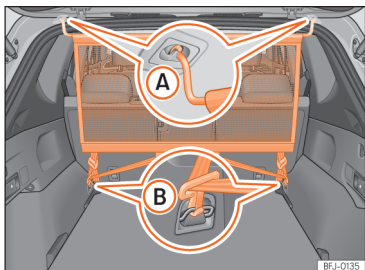

Fig. 203 Net partition fitted.
- Hook the net partition to the left-hand side roof housing >>> Fig. 203 (A).
- Hook in the net partition on the rear right-hand side roof housing by pressing on the bar >>> Fig. 203 (A).
- Secure two hooks of the partition net to the fastening rings of the boot >>> Fig. 203 (B) and tighten the straps firmly.
- Release the net hooks from the fastening rings >>> Fig. 203 (B).
- Unhook the net partition on the right-hand side roof support >>> Fig. 203 (A) by pressing on the cross rod.